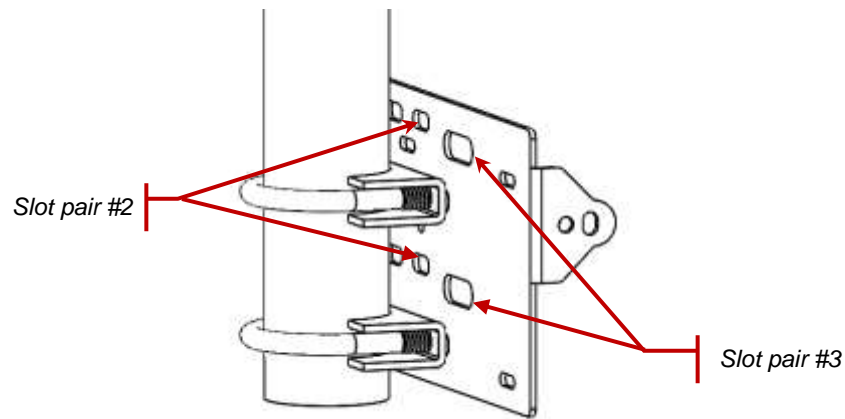

Figure 9 Mounting Bracket Secured to Pendant
3. Secure the clamping bolts to a pair of slots on the mounting bracket. Refer to Figure 9.